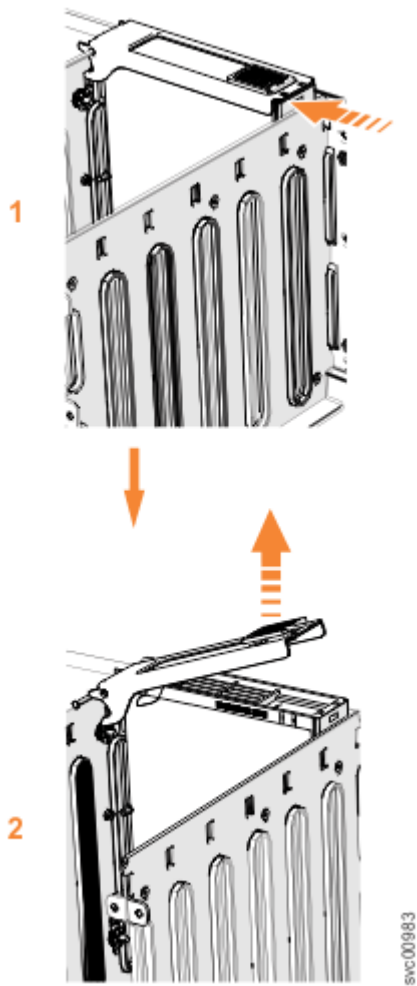

Figure 103. Remove the drive assembly
5. Slide the release latch forward (1), as shown in Figure 103 on page 163.
6. Lift the handle (2) to unlock the drive carrier from the partition, as shown in Figure 103 on page 163. Ensure the toe on the bottom of the latch is fully disengaged.